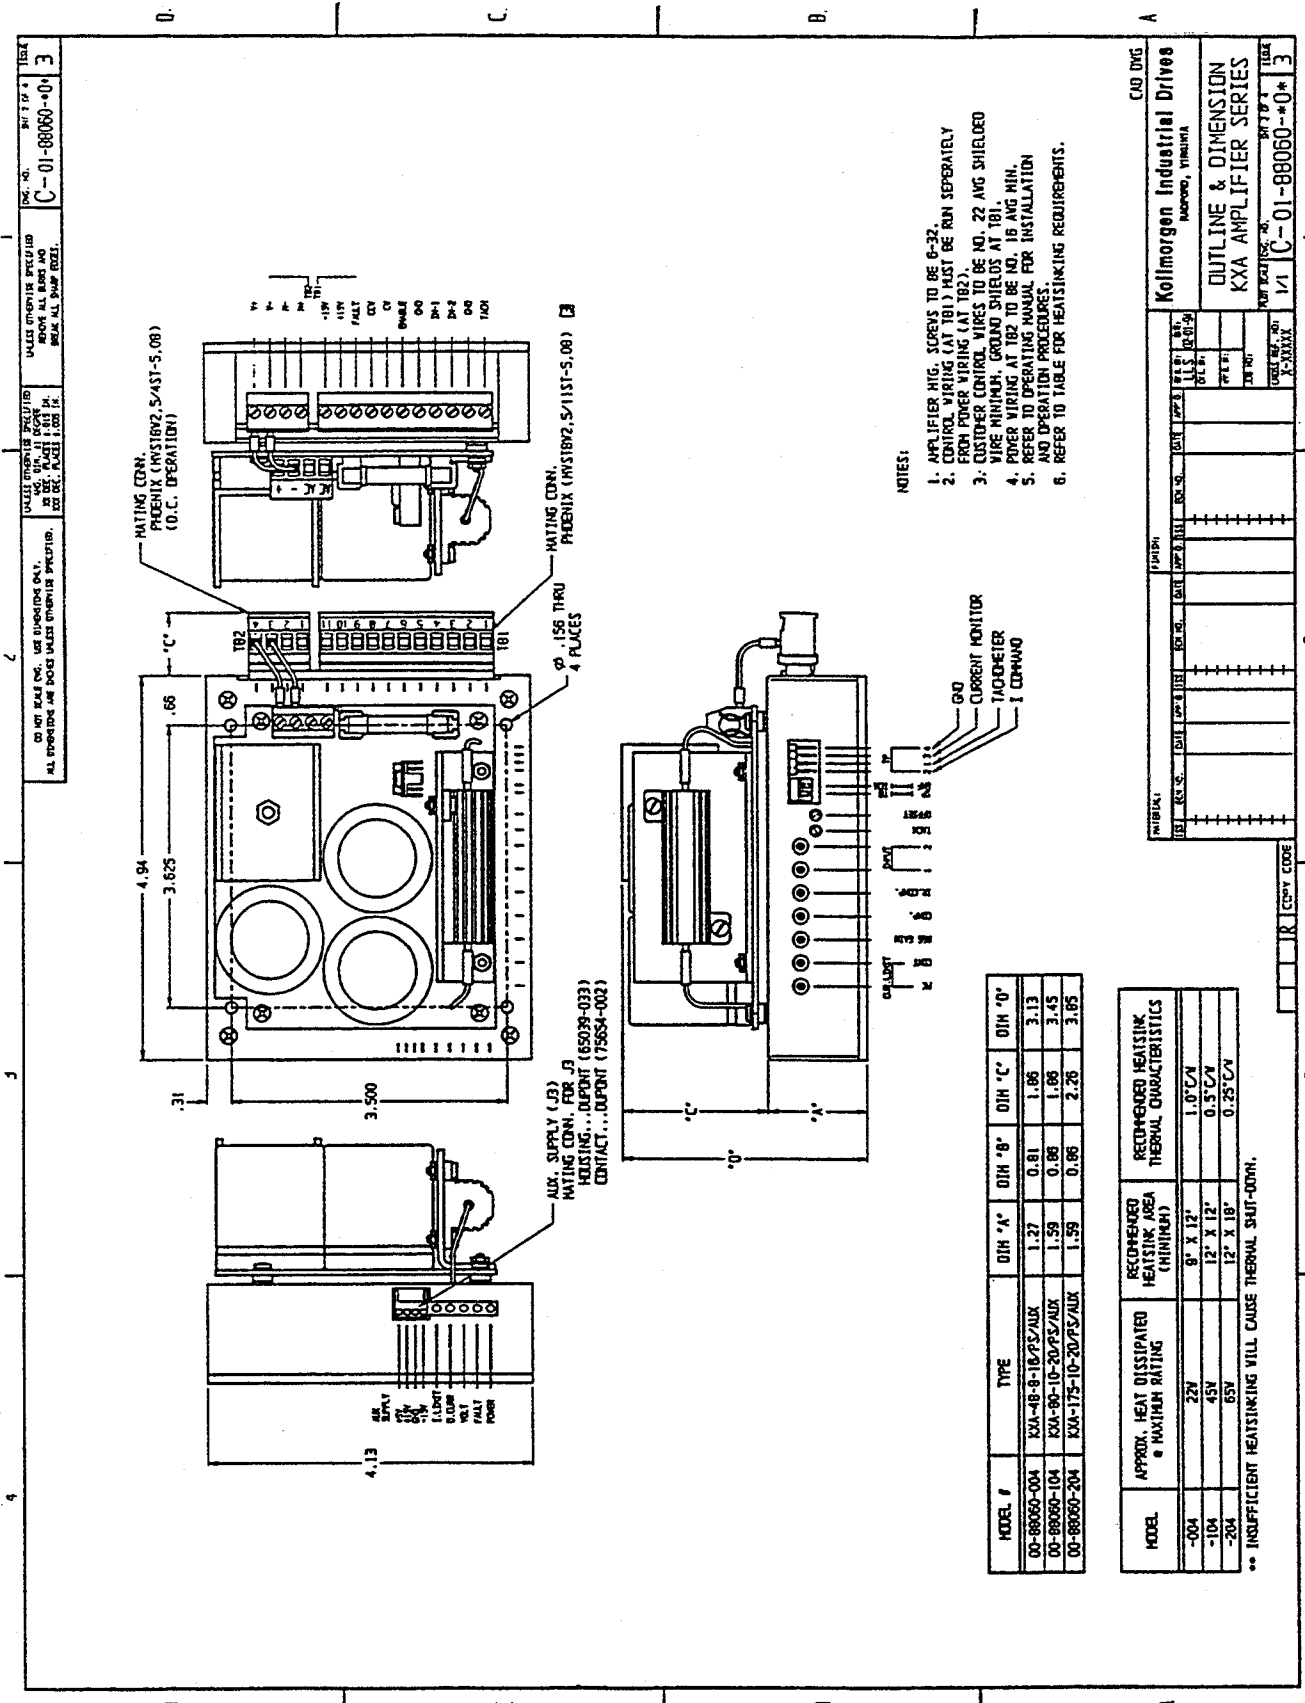

Figure 8. Outline Drawing C-01-88060-*0* Sheet 1 of 4
- VE3. Set the Speed/Torque switch SW-2 (See Figure 8)
- VE4. Check the EMF/Tach switch SW-1 (See Figure 8)
- VE5. Preset the adjustment potentiometers (See Figure 8)